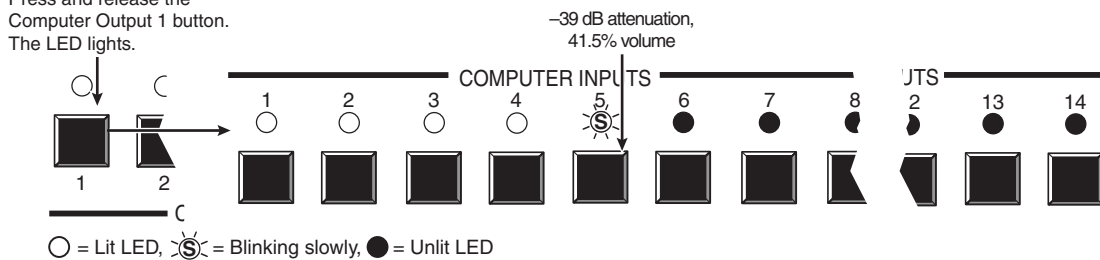

Figure 3-59 — Select output 1
3. Press and release the output 1 button (figure 3-59).